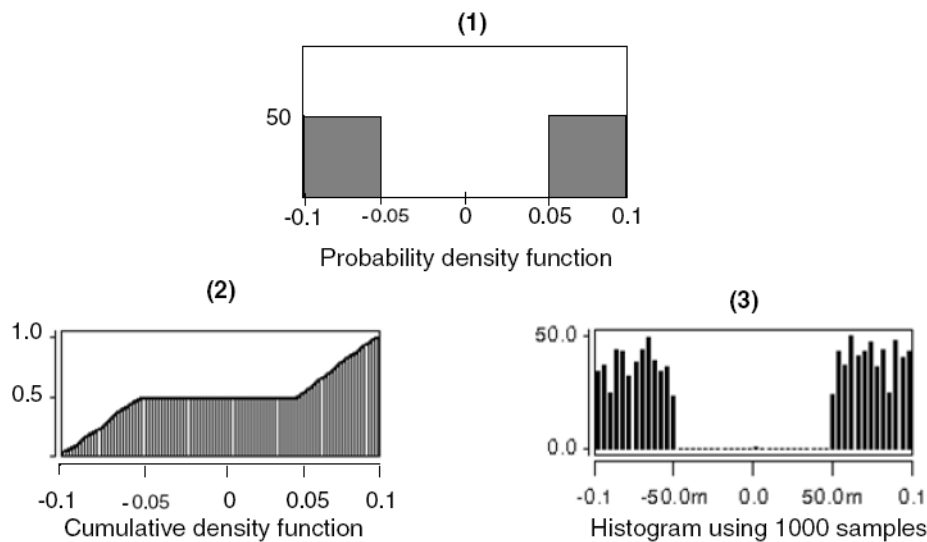

Figure 129 Probability, cumulative density and 1000-sample histogram
The probability density function is shown in Figure 129 (1). Figure 129 (2) gives the corresponding cumulative distribution function. This is coded in the Variation Block as:
The histogram generated by taking 1000 samples is shown in Figure 129 (3).